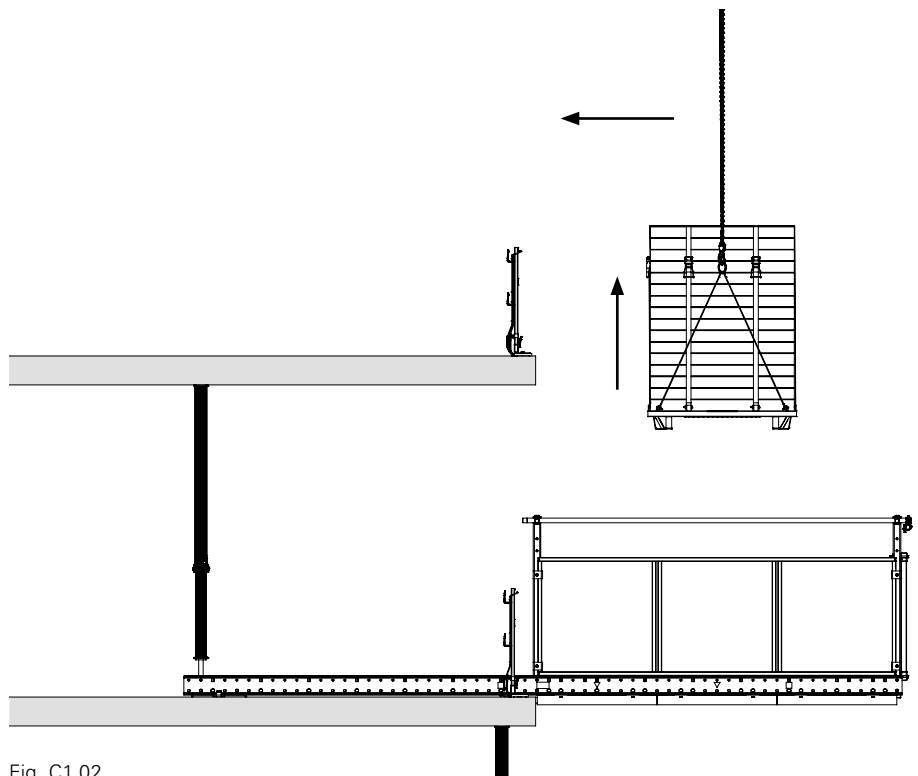

Fig. C1.02
3. Move the pallet with the crane. (Fig. C1.02)